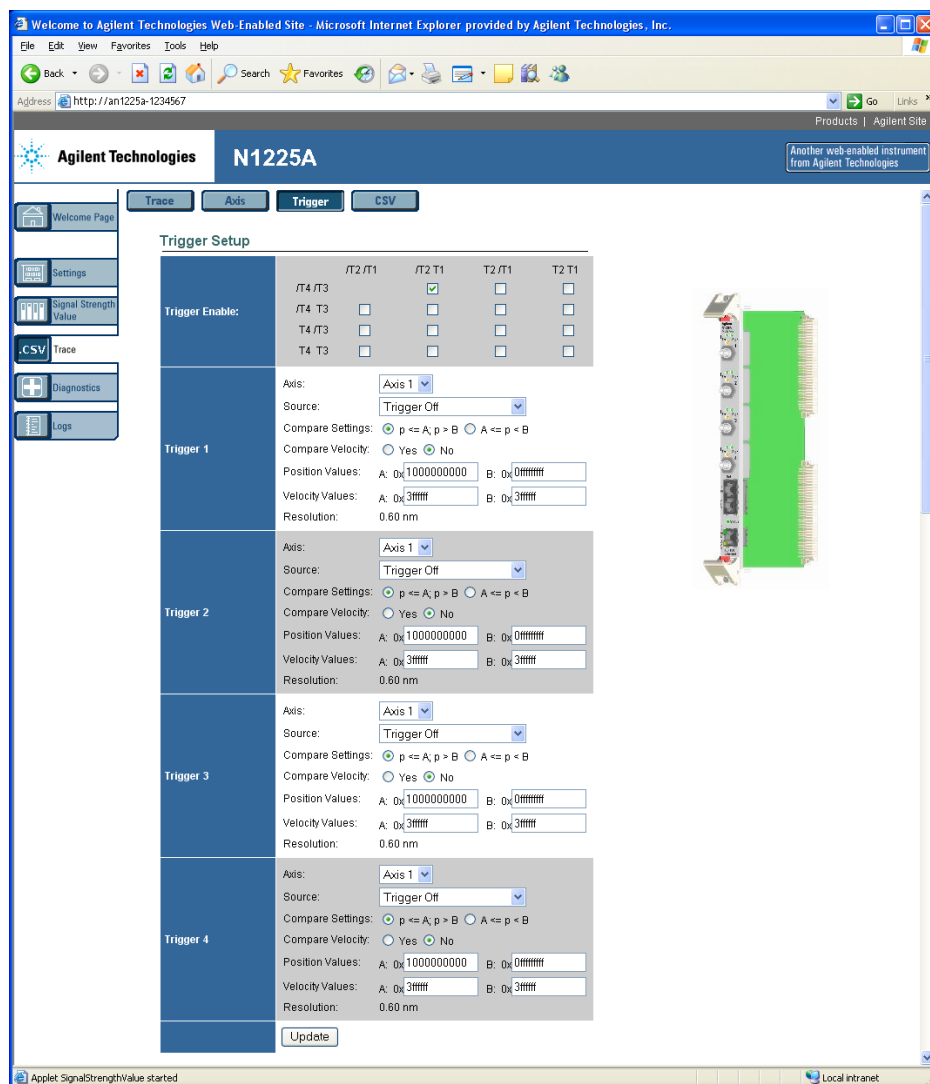

Figure 30 Trace Trigger Page
- 1 Click the *Trigger* button to open a window similar to the one shown in Figure 30. This window allows the individual trigger conditions to be set. It also is used to choose how many trigger conditions have to be met before starting to take trace data.
- 1 Locate the Trigger Enable section in Figure 30. It contains 16 check boxes representing all possible combinations for four trigger conditions.